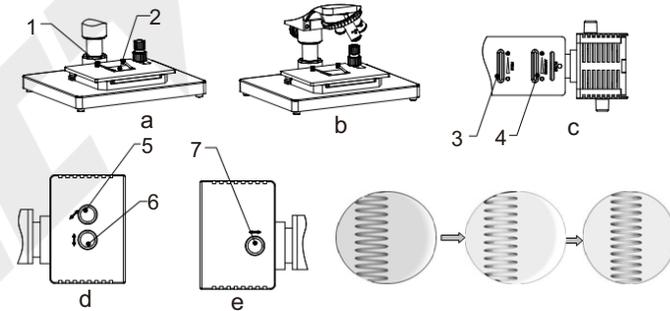

Fig.7
- (1) Prepare a piece of white paper 2 (about 40mmX50mm) and place it on the working stage, press it with spring clip 1, as shown in Fig.7-a.
- (2) Take out a objective and turn the nosepiece to make the through-hole into optical path, as shown in Fig.7-b.
- (3) Open the aperture diaphragm 3 and close the field diaphragm 4, At this point, a bright light spot will be shown on the white paper, with a filament image inside, as shown in Fig.7-f.
- (4) If the filament image is unclear, adjust the collector lens to make clear by adjusting knob 7.
- (5) If the filament image deviates from the center of the bright light spot, as shown in Fig.7-f, the bulb center should be adjusted, adjust the lamp transverse adjustment knob 5 and vertical adjustment knob 6 to calibrate bulb center